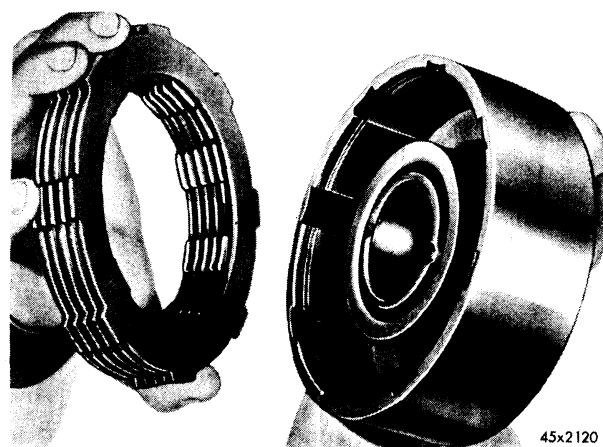

Fig. 86—Removal of Clutch Discs and Clutch Plates
- (5) Invert the direct clutch piston retainer and remove the six clutch plates (steel) and six driving discs (seven each in C-300). (Fig. 86.) Note the position in which these were assembled. If assembly was started with the cork portion on outer top, the same sequence must be followed all through the assembly, or vice versa. Assembling in this manner assures a more even contact. Driving discs are constructed of cork and krafelt, cycle-welded to a steel disc. Inspect driving discs for evidence of burning, glazing, and flaking off of facing material. Check disc by scratching facings with finger nail; if material collects under nail, replace all driving discs.